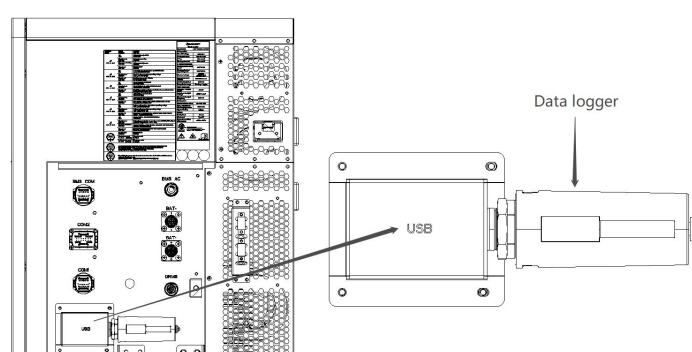

Fig 6.14 USB connection diagram
2. As shown in Figure 6.14, insert the USB to Wi-Fi module into the USB port (make sure that ▲ is facing upwards) and tighten the screw, then the LED of the USB to WIFI module will light up.